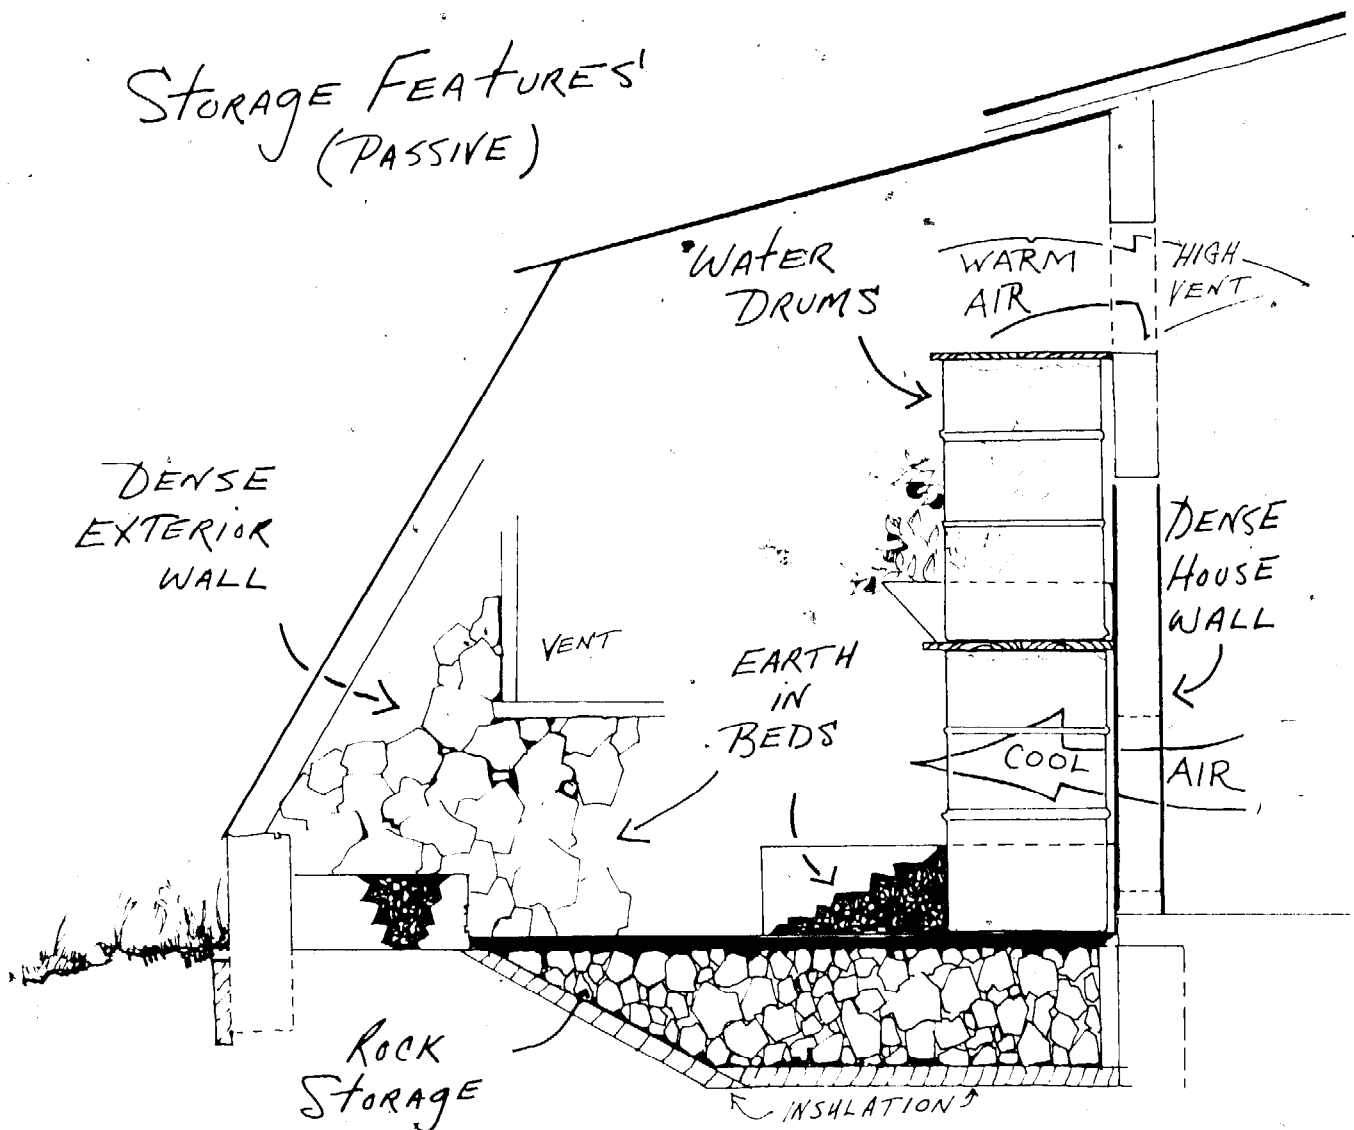

FIGURE 5
**Air circulation.** Heated air in the greenhouse rises and flows into a high opening to the home. A low opening in the shared wall allows cool air from the house to enter the greenhouse for heating. Without any mechanical devices this natural cycle will function continuously on any relatively sunny day (see this figure as well as figure 5 on page 10). Two additional benefits are provided by this type of air circulation. The plants in the unit convert carbon dioxide into oxygen-rich air for the home, a definite health benefit for the occupants. Also, in areas of the country with very low humidity, the added moisture from the greenhouse